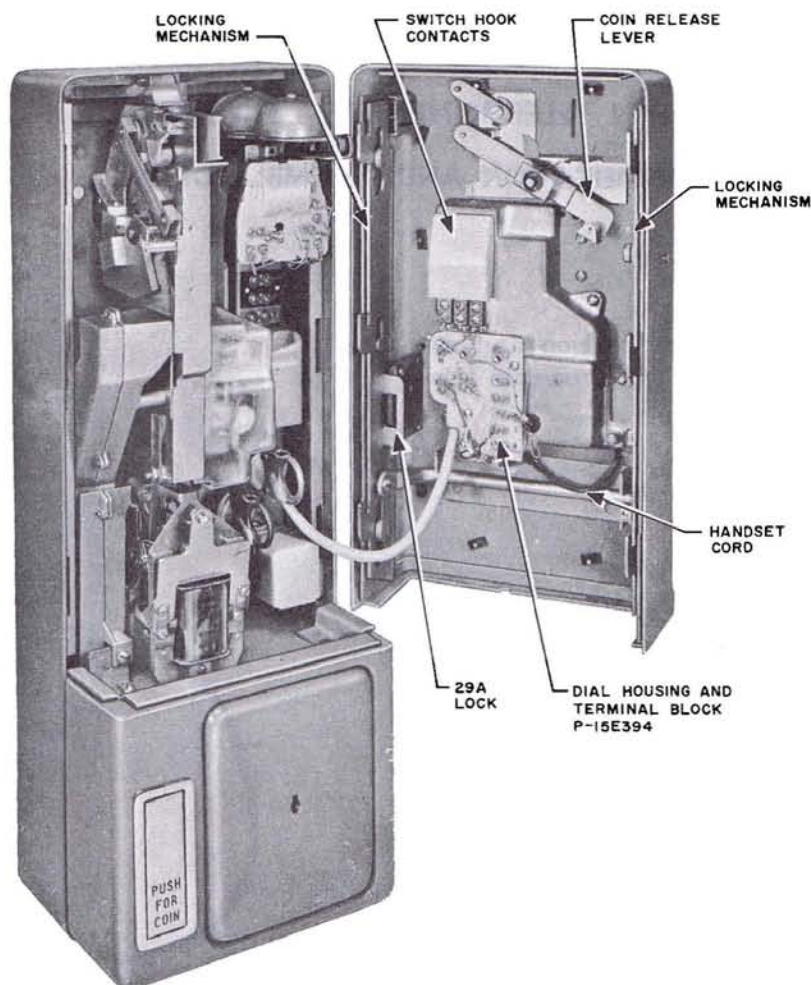

Fig. 3 - Cover Assembly
3.01 The cover of the 1A1 coin telephone includes the locking mechanism, coin release lever, dial housing and terminal block, switch-hook contacts, and a 29A lock. (See Fig. 3.)